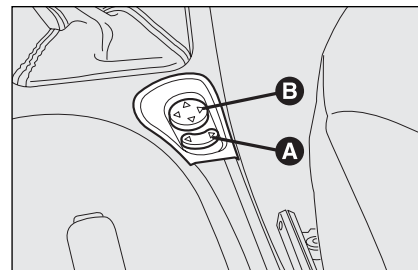

fig. 39
- use switch **A**-fig. 39 to select the mirror required (left or right);